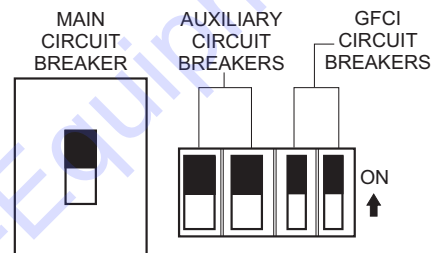

Figure 54. Main, Aux. and GFCI Circuit Breakers (ON)
12. Place the **main, GFCI, and aux.** circuit breakers in the **ON** position (Figure 54).